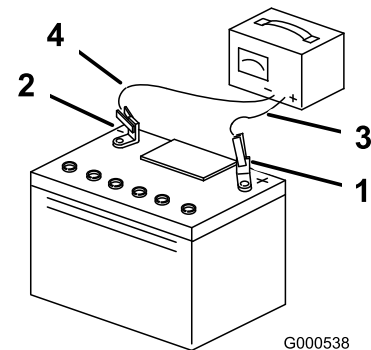

Figure 75
- When the battery is fully charged, unplug the charger from the electrical outlet, and disconnect the charger leads from the battery posts (Figure 75).